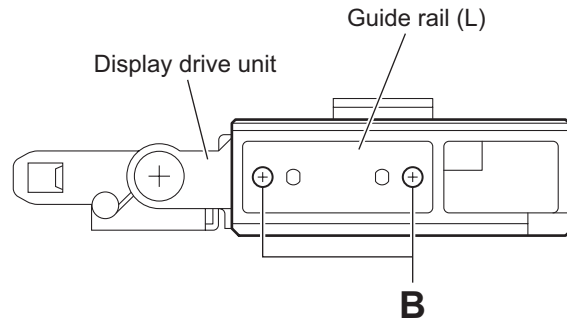

Fig.2
3.2.2 Removing the drive gears and forth gear (See Figs.2 to 4)
- (1) From the both sides of the display drive unit, remove the four screws **B** attaching the guide rails (L)/(R). (See Figs.2 and 3.)